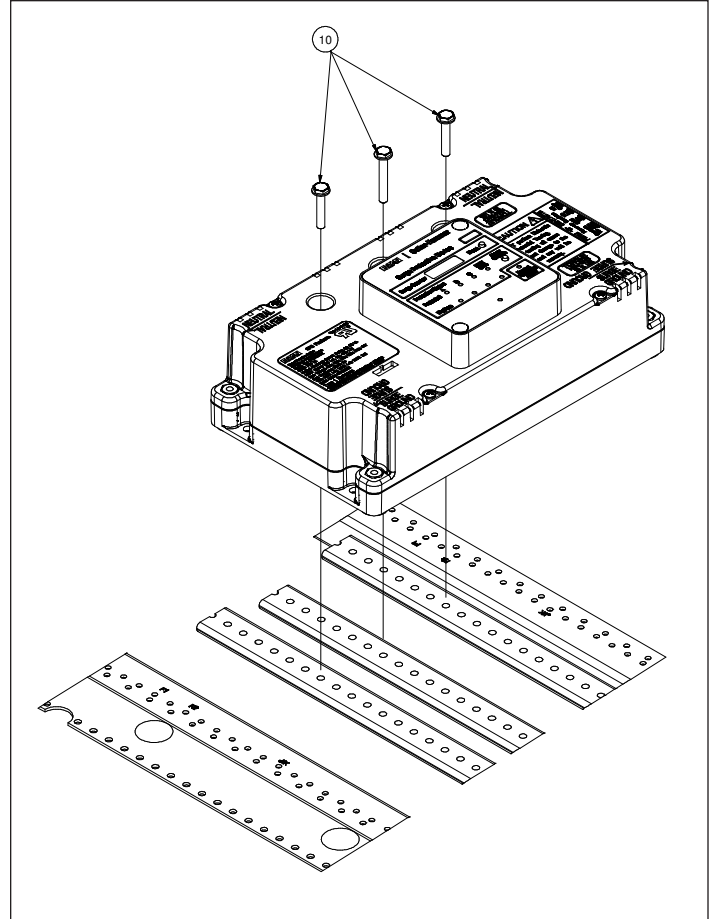

Figure 6. Bus Mounting Screws.
4. Install the bus mounting screws (Item 10) per Figure 6. For 3-phase applications, all three screws (Item 10) will be required, one per phase – A, B, C. For single-phase applications, only two screws (Item 10) will be required, one per phase – A & C. Ensure the bus connections screws (Item 10) are properly torqued¹. Do not over tighten them. Then, tighten the Item 9 screw at SPD bracket, one on each side. Move to Step 9 in this section.